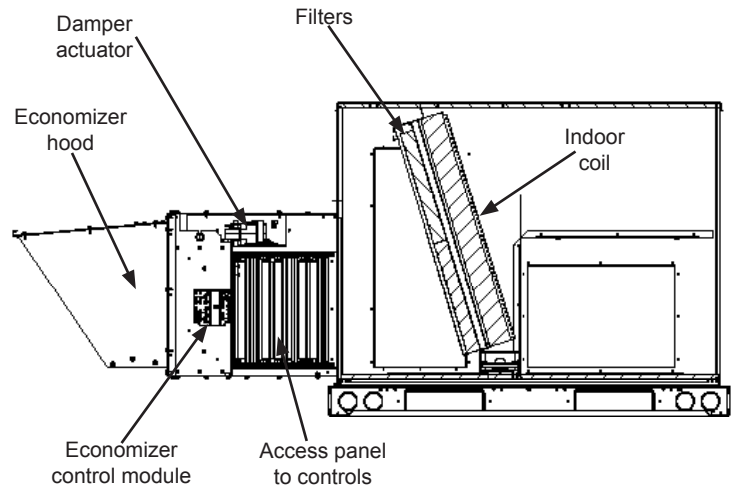
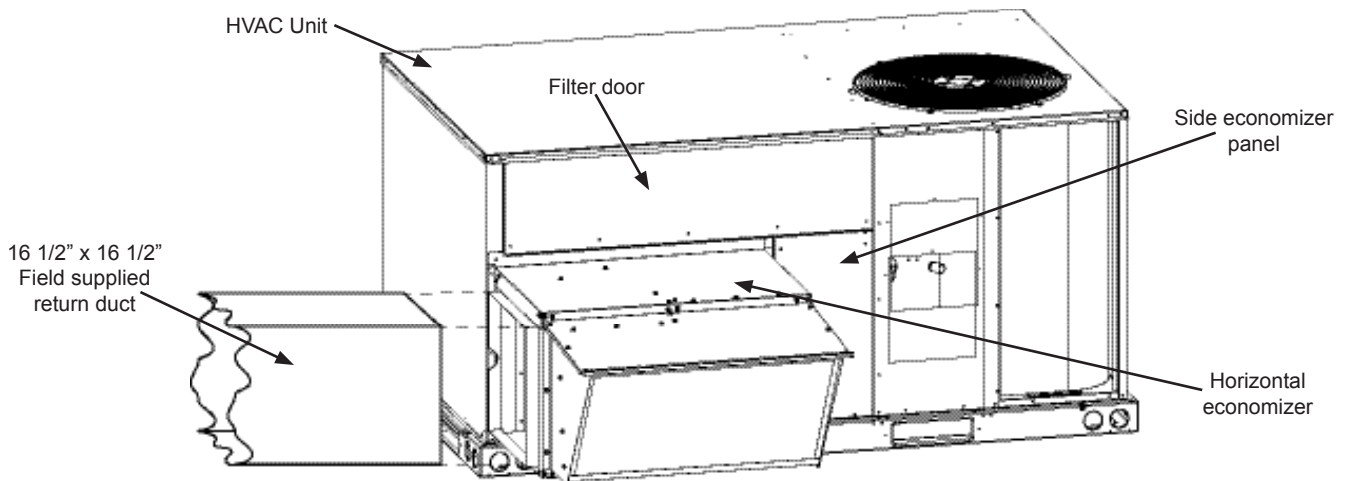
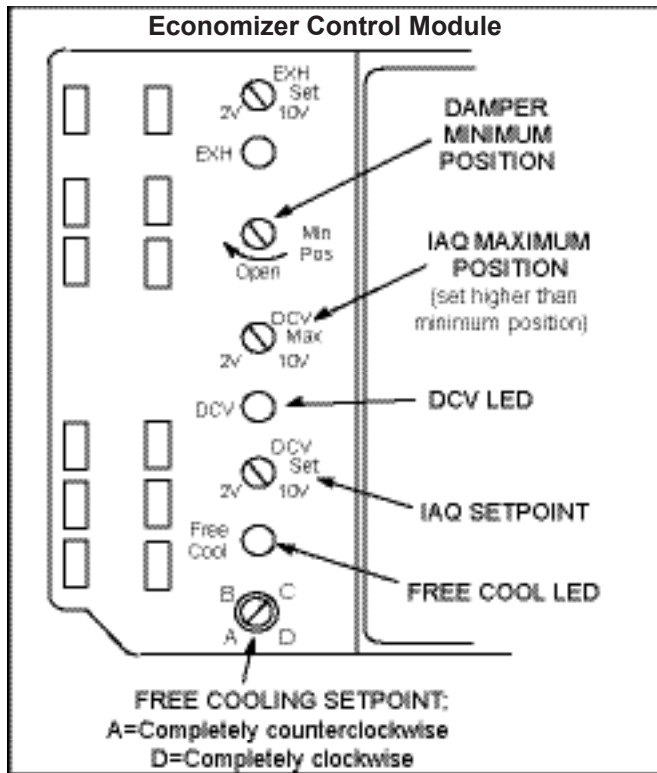

Figure 4
Figure 6
Figure 9
4. Install damper assembly on to unit where return chamber panel was. Economizer will sit outside of unit, and will rest on base rail. (See Fig. 4.)
5. Screw left side flange on economizer to HVAC unit using provided (3) #10-14 x 3/4" screws with washer.
6. Align the holes in the base flange of the economizer into the holes in the base rail of the HVAC unit. Secure in place using (5) #10-16 x 5/8" screws.
8. Install field supplied horizontal return duct. Return duct must be 16 1/2" x 16 1/2". Screw to economizer duct flanges. Caulk or gasket seam to ensure water tight seal. See Fig. 6.
1. Install economizer side panel to the right side of economizer, see Fig. 6. Screw panel to economizer on left side, and into door bracket on right side of panel.
To access economizer controller and actuator, remove control panel on side of economizer (see Fig. 4). Make all necessary adjustments and settings including minimum position potentiometer (see Fig. 9). Reinstall panel when finished.
The DCV SET potentiometer is factory-set at approximately 50% of the potentiometer range. Using a standard 1-2000ppm CO₂ sensor, dampers will start to open when the IAQ sensor reads approximately 1000ppm. Adjust the DCV SET potentiometer to the approximate setting specified by the controls contractor. Refer to Fig. 9.
The DCV MAX potentiometer is factory-set at approximately 50% of the potentiometer range or 6VDC. Dampers will open approximately half way when CO₂ rises above setpoint. Adjust the DCV MAX potentiometer to the approximate setting specified by the control contractor. Refer to Fig. 9.